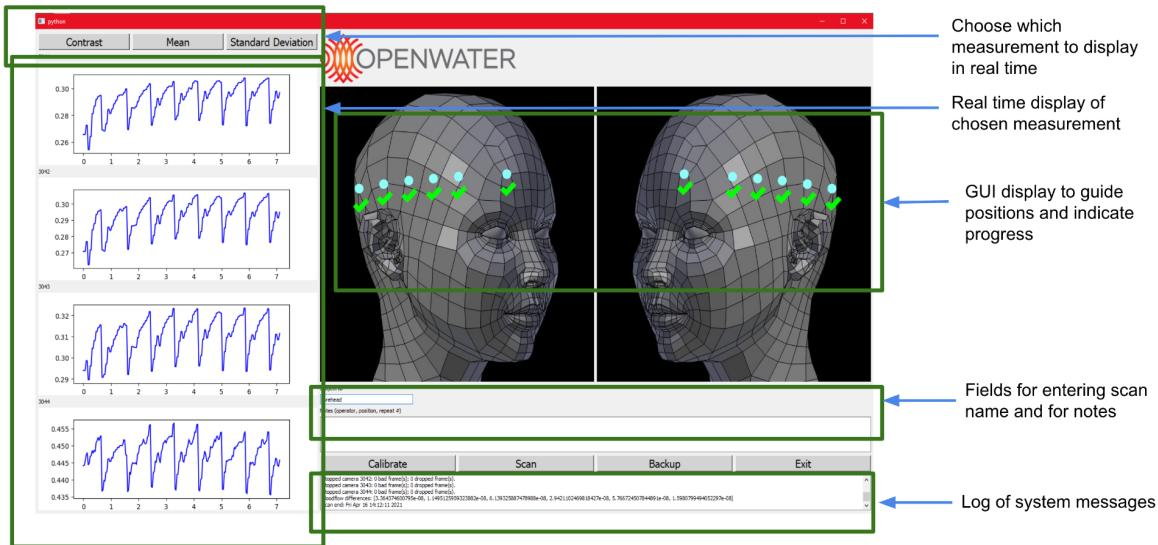

Fig 11: Scanner GUI
Referring to Fig 11, which shows the GUI:
9. The top left corner of the Scan UI allows the user to choose which scan value to display during the scan in real time (speckle contrast, STD, image mean). You can choose which parameter to display here (refer to Fig 11).
10. Press the *Scan* button on the UI (refer to Fig 11).